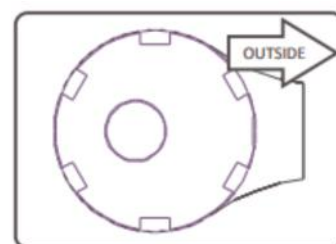

Figure 2 - for maximum camber adjustment
**Note: To adjust camber, loosen front bush mounting bolt and rotate the sleeve using the supplied spanner to achieve desired camber angles. For maximum camber, position the bore of the sleeve towards the middle of the car (Figure 2).**